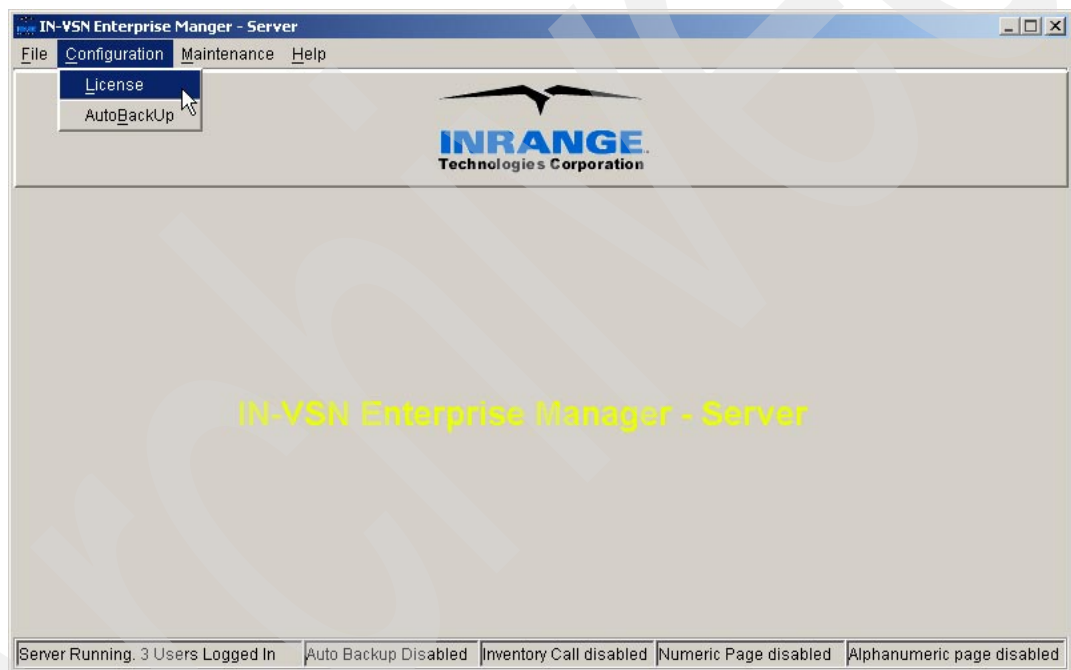

Figure 5-2 Product License Client selection
2. Invoke the Product License Client, by clicking the **Configuration** tab, then the **License** tab, as shown in Figure 5.2.